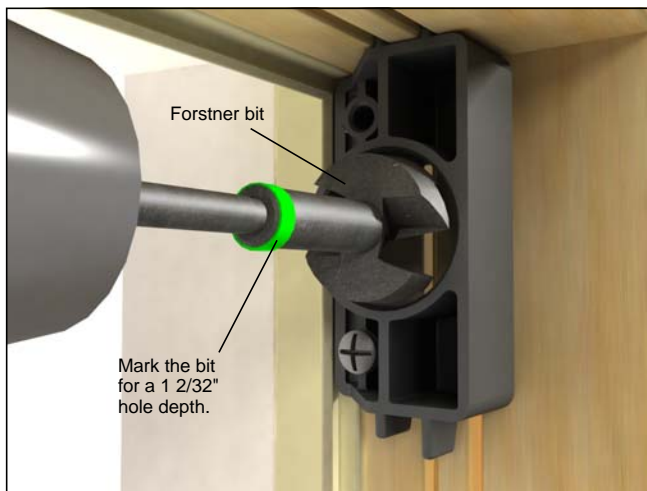

Figure 15
- Using a 1" Forstner bit and following the jig as a template, drill a hole through the jamb or sill. Mark the bit for a 1 3/32" hole depth. See figure 15.